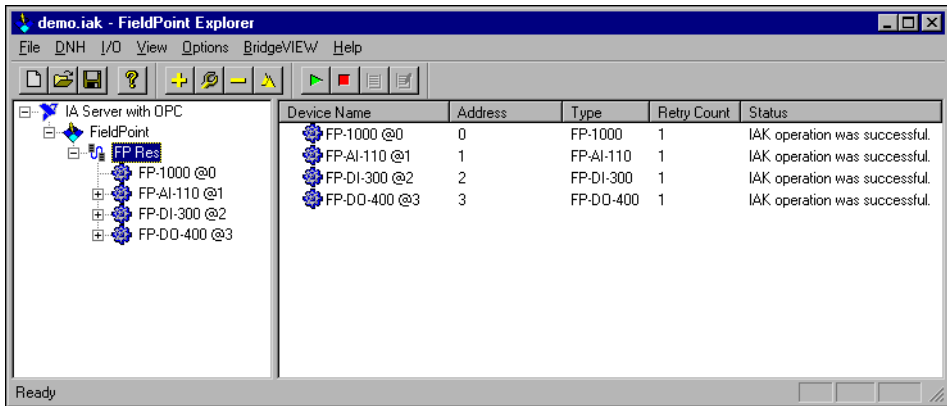

Figure 9. Device Hierarchy
5. After the FieldPoint modules are found, click on the + sign next to **FP Res** to expand the device hierarchy and display the modules found on the network. The hierarchy should include four FieldPoint modules, as shown in Figure 9.